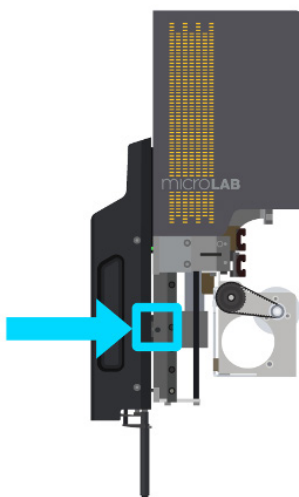

Figure 6–14: Locating the 8 MPH replacement screw
- a. Loosen the screw indicated in Figure 6–14 by a half-turn** using the 3 mm hex wrench included with the Prep.